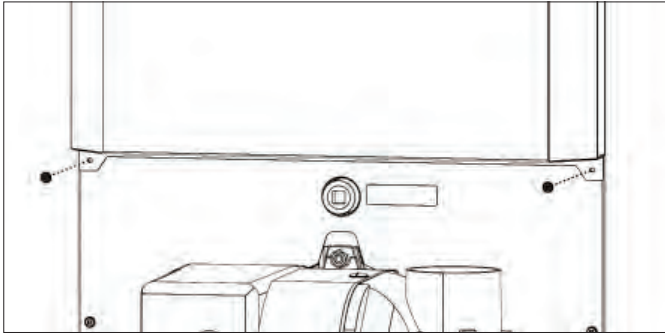

Figure 10-1: Removing the two screws (15/21 model)
1. To access these first remove the upper front panel. Unscrew and remove the two screws located on either side of the panel, just below the overhang. Refer to Figure 10-1.